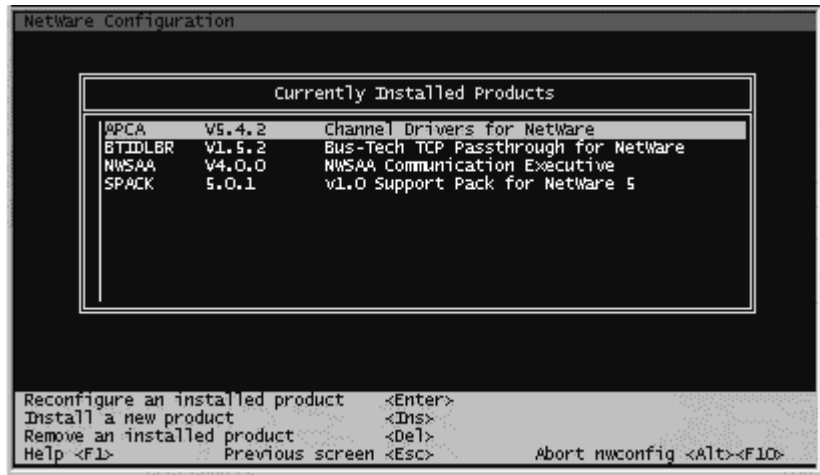

Figure 3-32. Currently Installed Products
9. The Channel Drivers for NetWare will be listed in the **Currently Installed Product** list (Figure 3-32).
- The Channel Drivers for NetWare will be listed in the **Currently Installed Product** list (Figure 3-32).